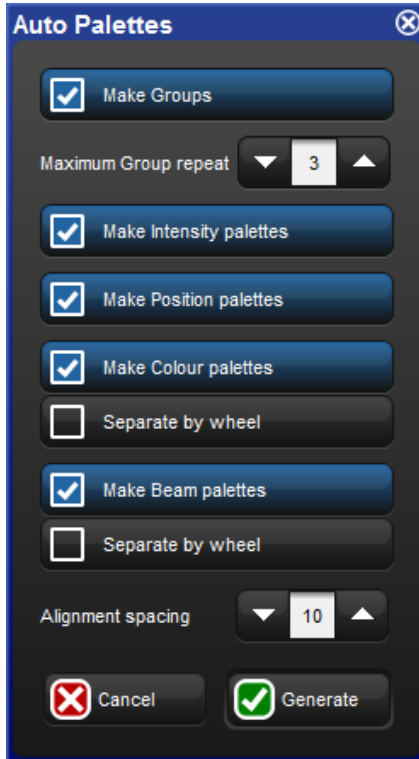

Figure 5.10. The Auto Palettes window
2. Click on the Auto Palettes button (located in the toolbar at the top of the Fixture window) and select from the options in the Auto Palettes window; see *Figure 5.10, "The Auto Palettes window"*.